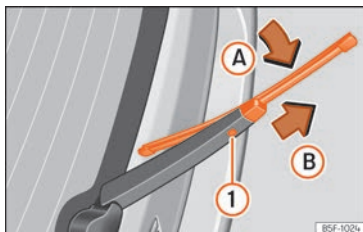

Fig. 86 Changing the rear wiper blade
- Turn the blade slightly » Fig. 86 (arrow A).
- Hold down the release button ❶ while gently pulling the blade in the direction of arrow B.
- Insert a new blade of the **same length and type** in the rear wiper arm in the opposite direction to the arrow B and hook into place button ❶.